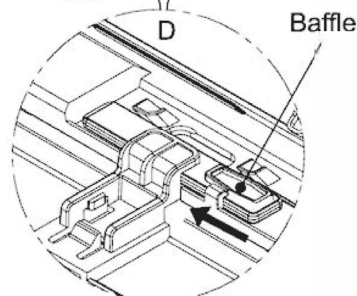

Fig. C.7.5
4) In the C position, open the front shell as shown in Fig. C.7.4. Then in the D position, push the baffles to prevent the front shell from falling as shown in Fig. C.7.5.